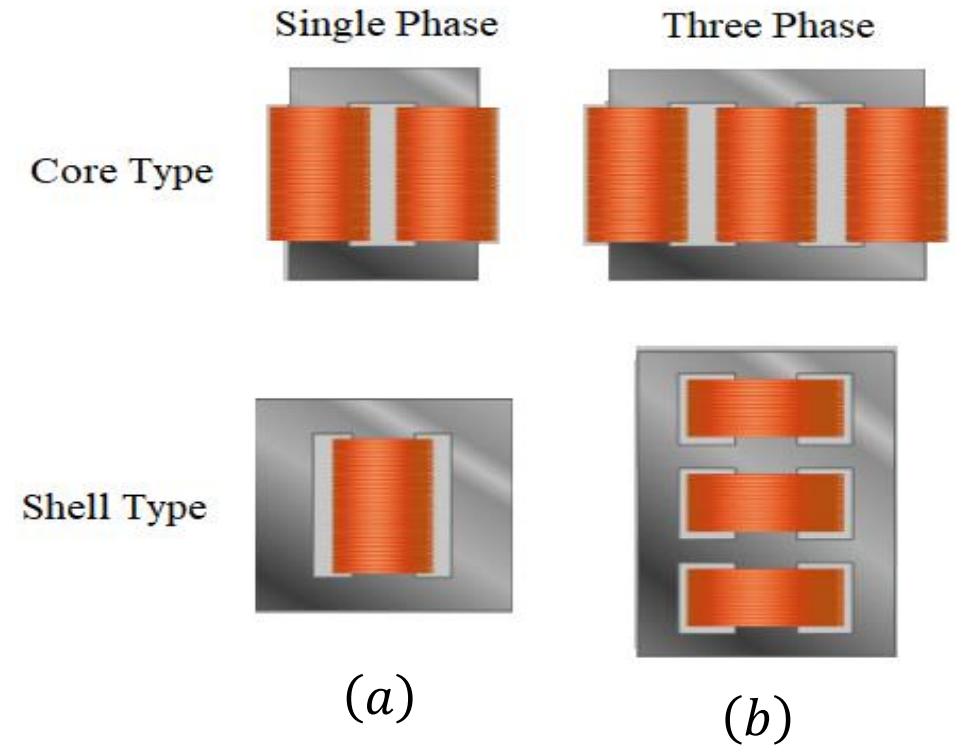

Fig. 8.6
- ✓ The concentric coils are used for core-type of transformers. The windings surround a considerable part of steel core as shown in **Fig. 8.4 (a)** and **Fig. 8.6 (a)**.
- ✓ The interleaved (or sandwiched) coils are used for shell-type of transformers. The steel core surrounds a major part of the windings as shown in **Fig. 8.4 (b)** and **Fig. 8.6 (b)**.